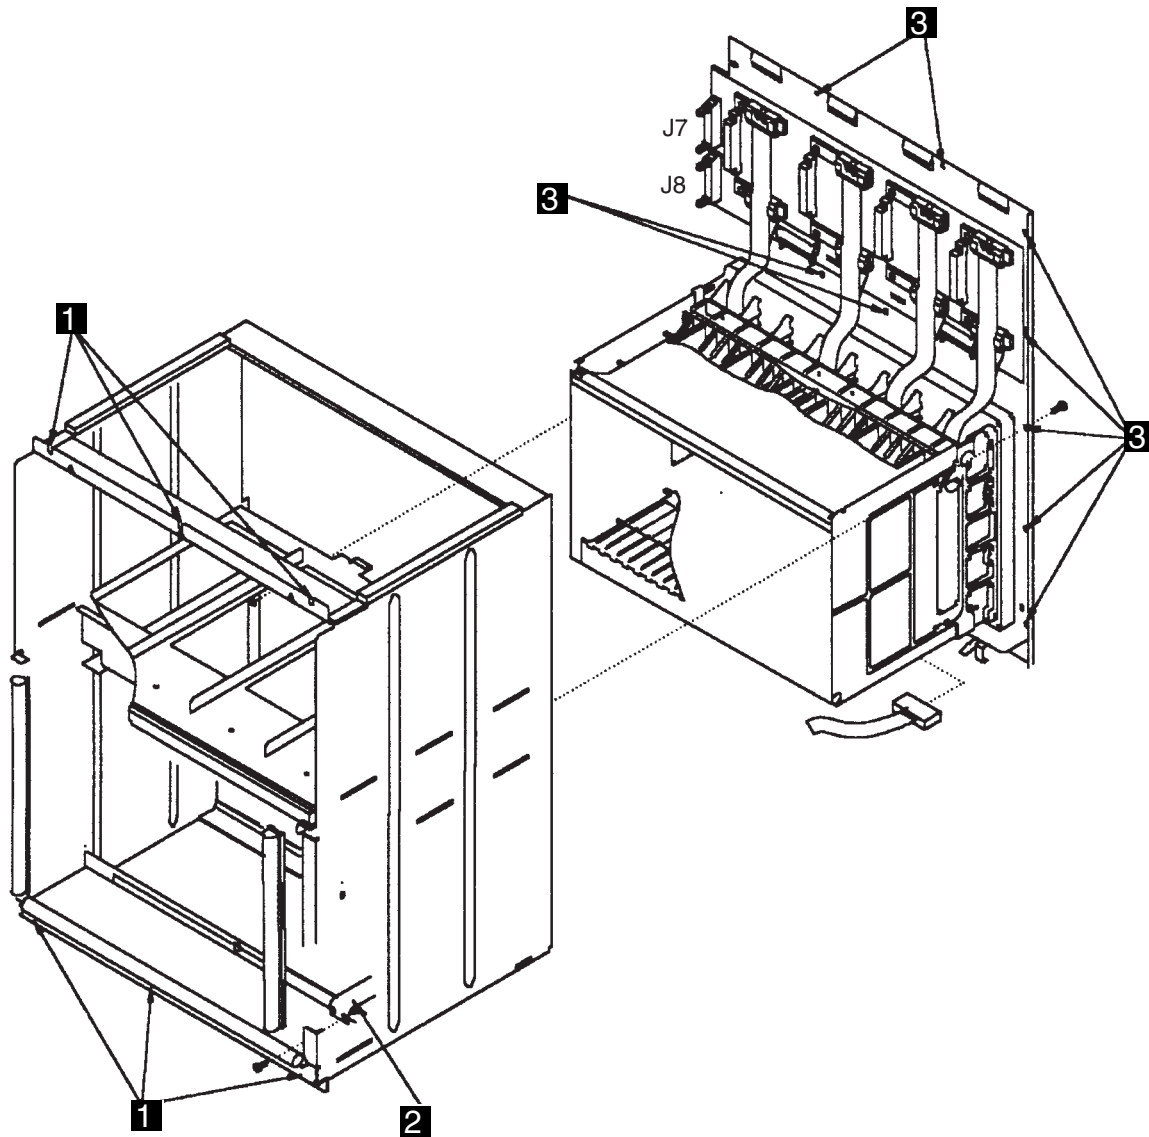

Figure 4-124. Channel Board and Power Enclosure
- d. Remove power connectors 01K-J7 and 01K-J8. Refer to Figure 4-124 on page 4-134.
- c. Remove power connectors 02D-J7 and 02D-J8. refer to Figure 4-124 on page 4-134.
16. Refer to Figure 4-124. Remove the six screws **1** which maintain the enclosure on the frame. Slide the enclosure out of the machine taking care not to damage the power board and connectors on the left side.
18. Refer to Figure 4-124. Remove the 11 screws **3** holding the enclosure back plate assembly. Remove the back plate assembly and place it in an area for further work.
5. Refer to Figure 4-124 on page 4-134. Re-install the 11 screws **2** holding the enclosure back plate assembly to the enclosure.
6. Refer to Figure 4-124 on page 4-134. Slide the enclosure into the machine taking care not to damage the power board and connectors on the left side. Re-install the six screws **1** which maintain the enclosure to the frame.